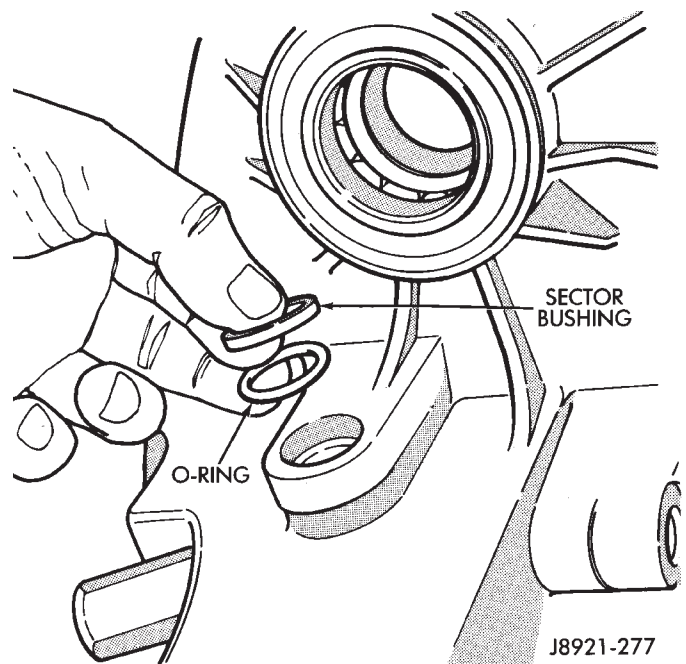

Fig. 60 Sector O-Ring And Bushing Installation
(1) Install new sector shaft O-ring and bushing (Fig. 60).